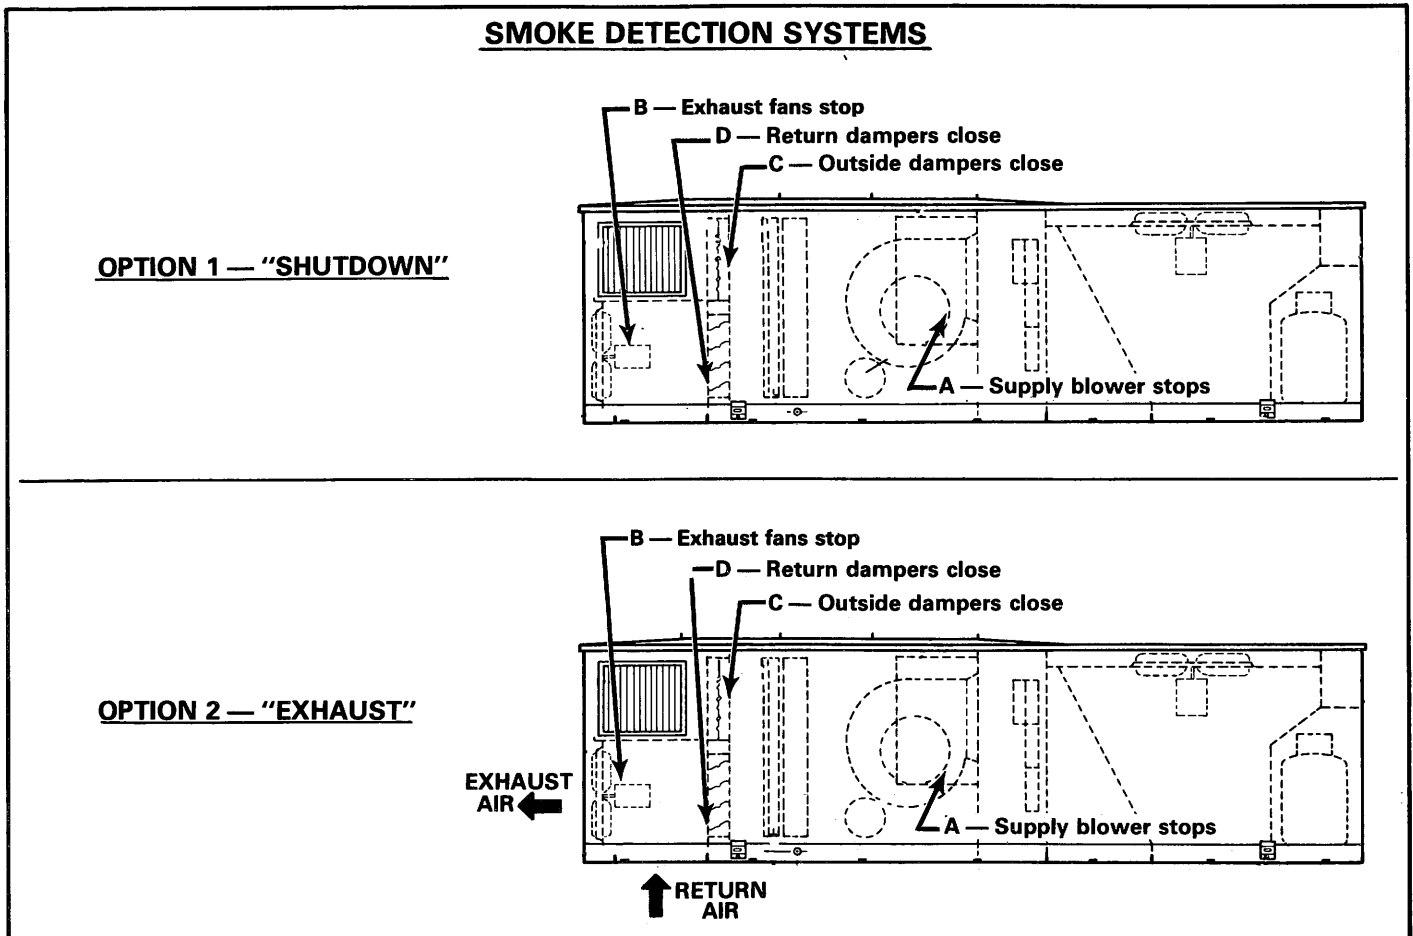

FIGURE 1
- 5 - Sensing the presence of smoke, the supply and return smoke detection systems (optional) terminate heating and cooling functions and provide 2 options of controlling blower and damper operation. See Figure 1.